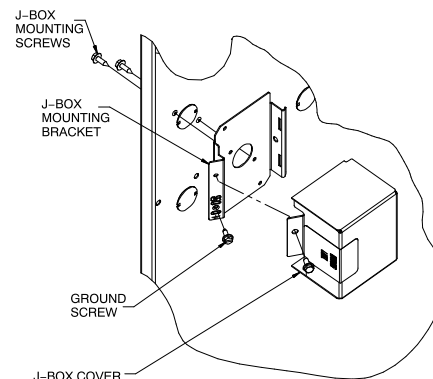

Fig. 34 – Installing J-Box (When Used)
The J-Box cover, mounting bracket and screws are shipped in the loose parts bag included with the furnace. See Fig. 34 for J-Box mounting locations.
1. Install J-Box mounting bracket to inside of furnace casing, see Fig. 34.
5. Connect field ground wire and factory ground wire to green ground screw on J-Box mounting bracket as shown in Fig. 34.
7. Attach furnace J-Box cover to mounting bracket with screws supplied in loose parts bag. Do not pinch wires between cover and bracket, see Fig. 34.
4. Connect field ground wire and factory ground wire to green ground screw on J-Box mounting bracket as shown in Fig. 34.